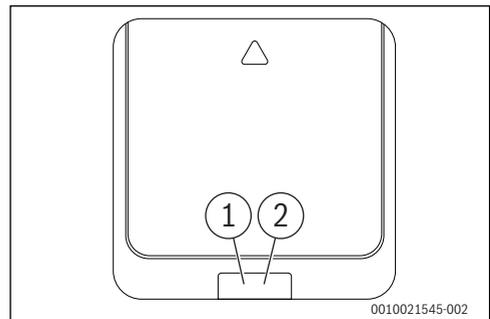

Fig. 15 Key
- ▶ While the control unit is connecting, press the button (Fig. 15, Pos. [2]) on the key briefly to connect the key. The LED (Fig. 15, Pos. [1]) flashes twice in five seconds while the connection is being established.